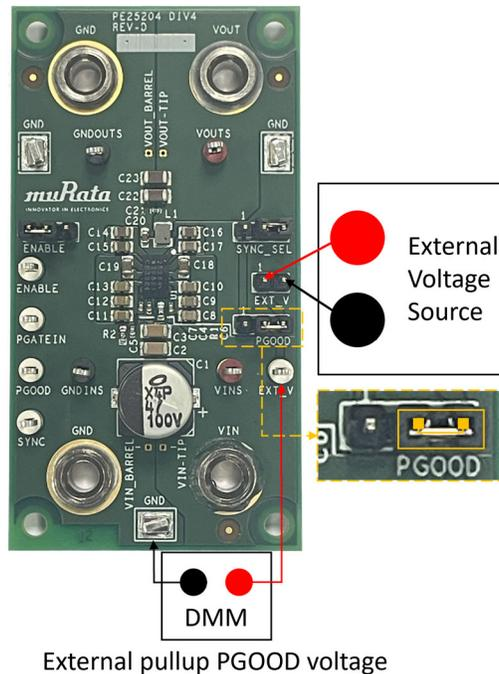

Figure 5. EVK Equipment Connections for External Pull-up PGOOD Voltage Supply and Measurement
An external voltage can be supplied to the EVK to pull up the PE25204 PGOOD pin rather than the internal VDD through the EXT\_V supply header. To supply and measure the external pull-up of the PGOOD voltage, connect the EVK to the equipment as shown in Figure 5 and configure the PGOOD selector with the jumper as shown.
2. Optional: If you prefer, supply and measure an external voltage between 3.3V and 5V to pullup the PGOOD pin of PE25204 instead of using the internal VDD of the IC by connecting the EVK as shown in Figure 5 and reconfiguring the PGOOD selector as shown in Figure 5.